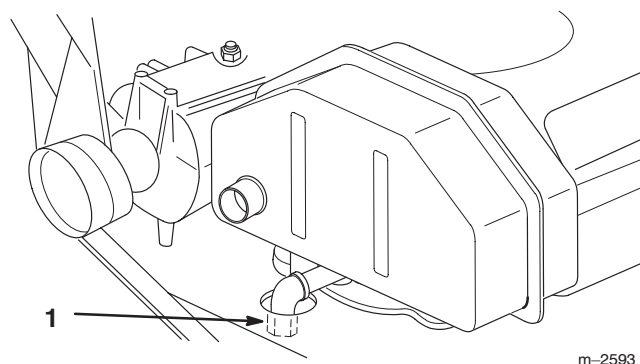

Figure 20
3. Place a pan below the oil drain. Remove the oil drain cap (Fig. 20).